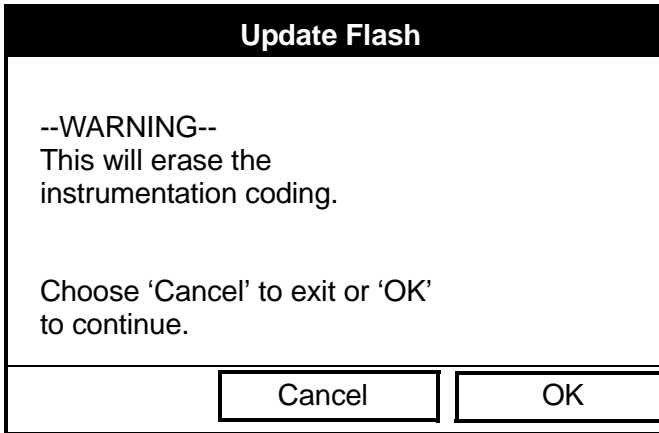

Figure 133: Flash Update Option
To begin the loading procedure, scroll down to the Flash Update entry in the Service Menu and press [ENTER]. The screen appears similar to Figure 133 below.
1. As shown in Figure 133 above, the Flash Update option erases all instrument coding.
- Press [F3] (OK) to confirm that you wish to erase the program.